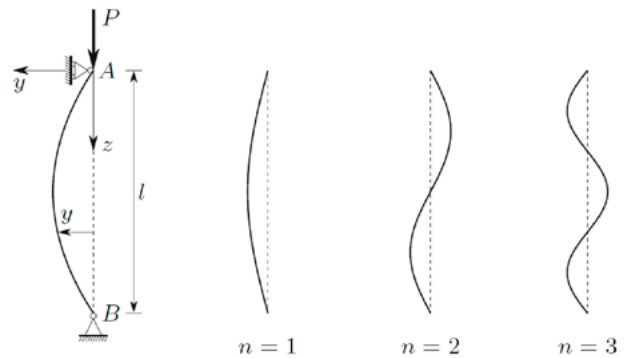
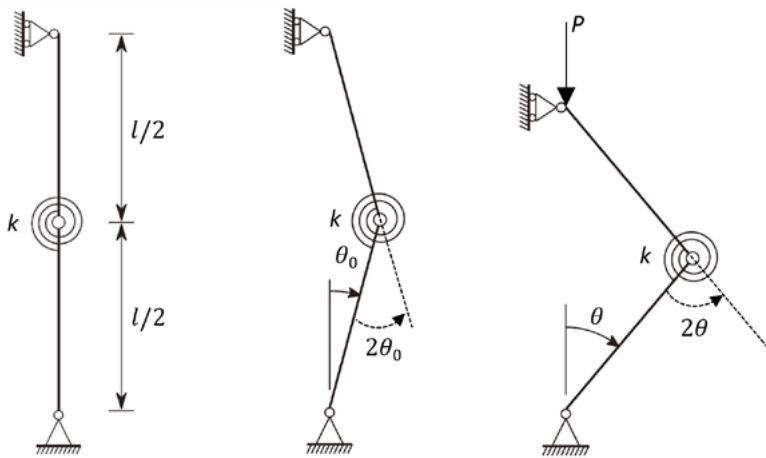

Figure 2 – Buckling modes for a pin-ended strut2.
Figure 6 – Idealized system with a joint with a spring stiffness2.
For an idealized “perfect” pin-ended strut (Figure 2), the theoretical critical load that leads to a sudden instability of the system can be obtained by solving a second order differential equation1. In the process, the displacement “y” along “z” is established using a sinusoidal function, which later leads to the following definition:
►23 The Eurocode introduces an initial plateau (limited by  $\lambda_0$  in Figure 5) for the design of imperfect struts. According to clause 6.3.1.3 of EN 1993-1-1, the plateau is determined by  $\bar{\lambda} = 0.20$ , where  $\bar{\lambda} = \sqrt{A\sigma_y/P_{cr}}$  (the Eurocode terms are  $\bar{\lambda} = \sqrt{Af_y/N_{cr}}$ ). This plateau makes an allowance for strain hardening in short columns6. For values above the specified slenderness for the plateau, second-order  $P$ - $\delta$  effects are always relevant for members. The differential equation for the “perfect” struts in Figure 2 can be adapted to consider an **initial bow imperfection**. If the formulation for a “perfect” problem is rather complex, including an initial imperfection would certainly be more so. However, to demonstrate the concept of the effects of an initial bow imperfection, a simplified model can be adopted, where the system from Figure 2 is replaced by an idealized problem having a joint with a spring stiffness as shown in Figure 62,6.